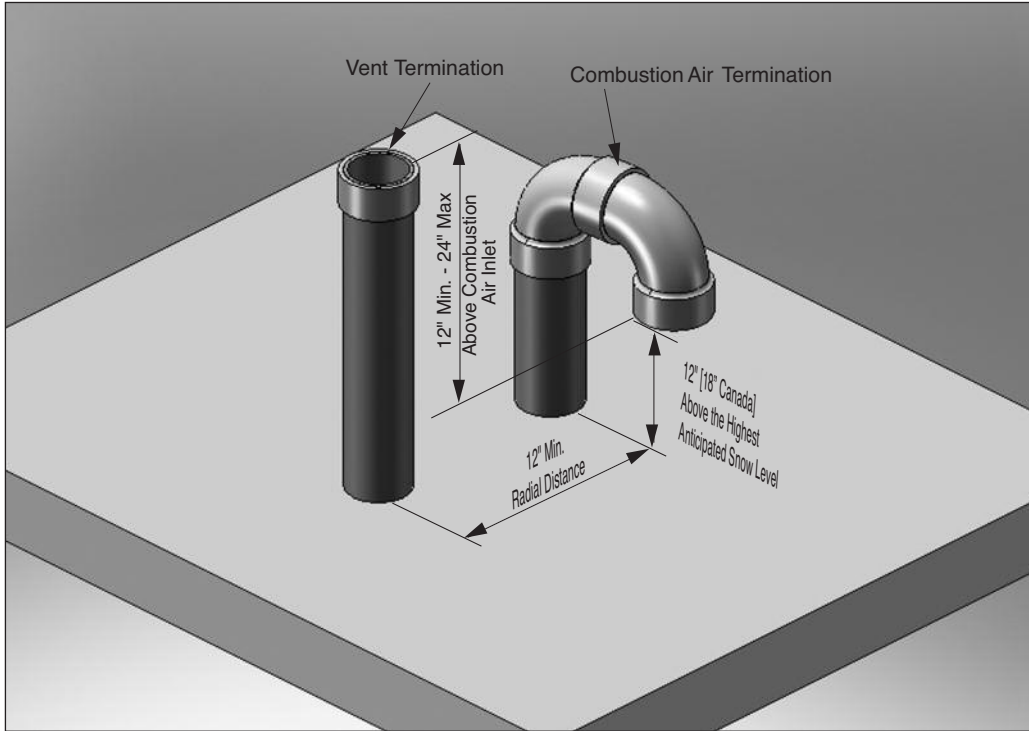
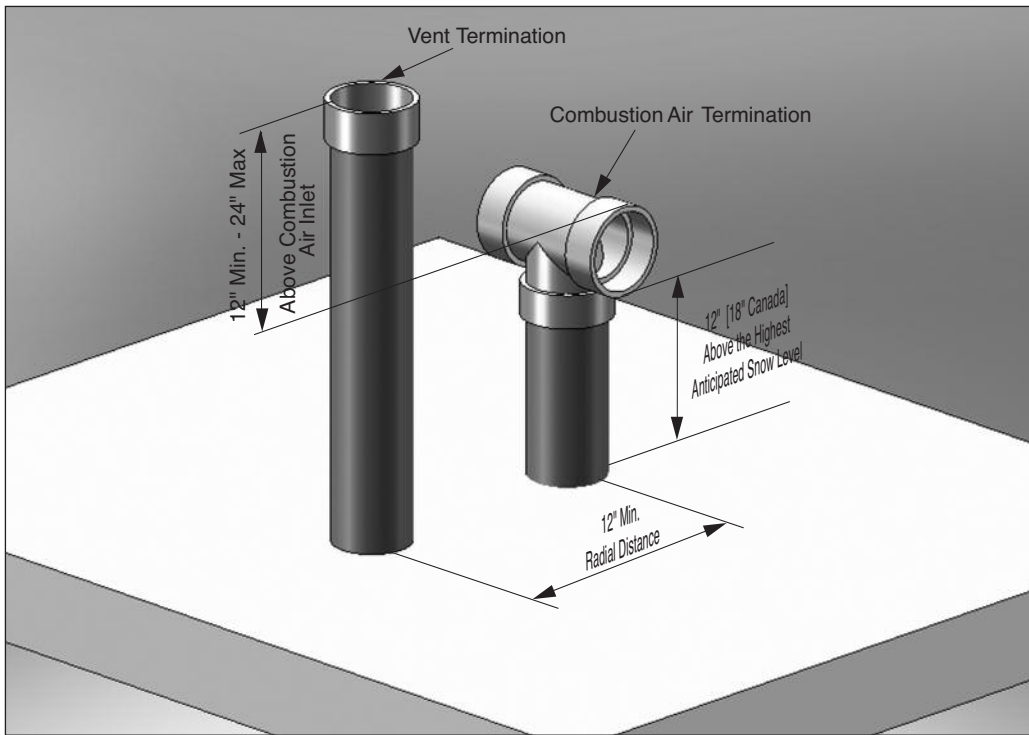

Fig. 1: Direct Vent - Vertical Termination of Vent and Combustion Air Piping.
Fig. 2: Direct Vent - Vertical Termination of Vent and Combustion Air Piping.
2. The combustion air piping must terminate in an upside down “U” shape fashion using two 90° elbows as shown in Fig. 1 page 6 or with a tee as shown in Fig. 2 page 6. The termination must be installed 12” [18” Canada] above the highest anticipated snow level.
3. The vent must terminate vertically with a coupling to accept the bird screen and must be located 12” to 24” above the combustion air inlet as shown in Fig. 1 & Fig. 2 on page 6.
4. The vent and combustion air terminations must be located a radial distance of 12” to 24” from centerline of vent termination to centerline of air termination as shown in Figs. 1 & 2 on page 6.
3. Locate the vent and combustion air pipe penetrations to provide clearances as described in Fig. 1 & Fig. 2 on page 6.
2. The combustion air piping must terminate in an upside down "U" shape fashion using two 90° elbows as shown in Fig. 1 page 6 or with a tee as shown in Fig. 2 on page 6.
3. The vent piping must terminate vertically with a coupling as shown in Figs. 1 & 2 page 6.
Do not extend the vent pipe above the roof beyond the dimensions shown in Fig. 1 & Fig. 2 on page 6. Extended exposure of the vent pipe could cause condensate to freeze and block the vent pipe.